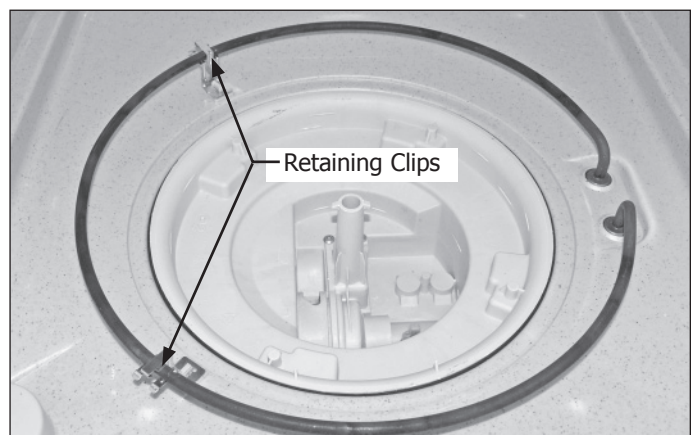

Figure 4-21.
4. From inside tub, remove the heater element from the retaining clips. Pull heater element out of tub. (See Figure 4-21)